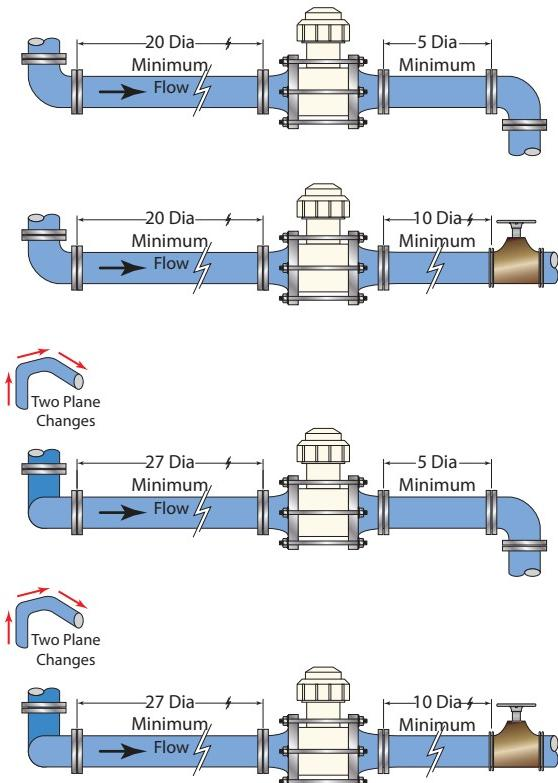
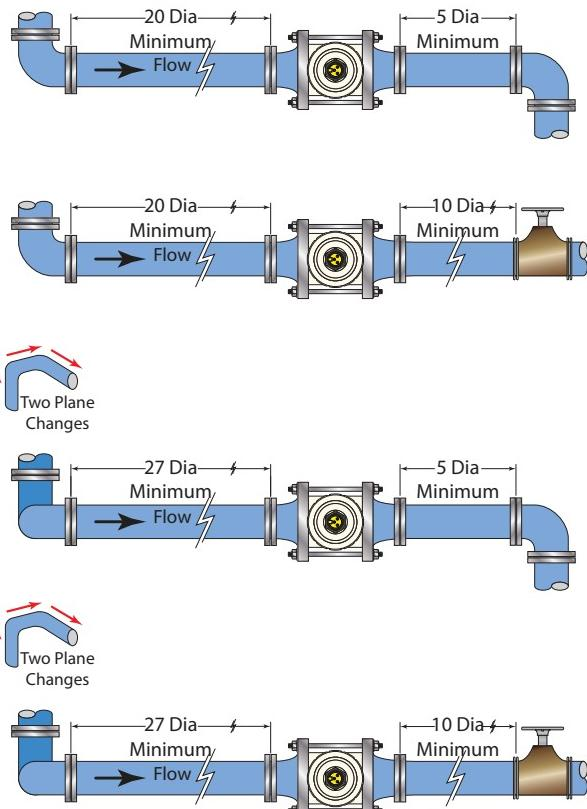
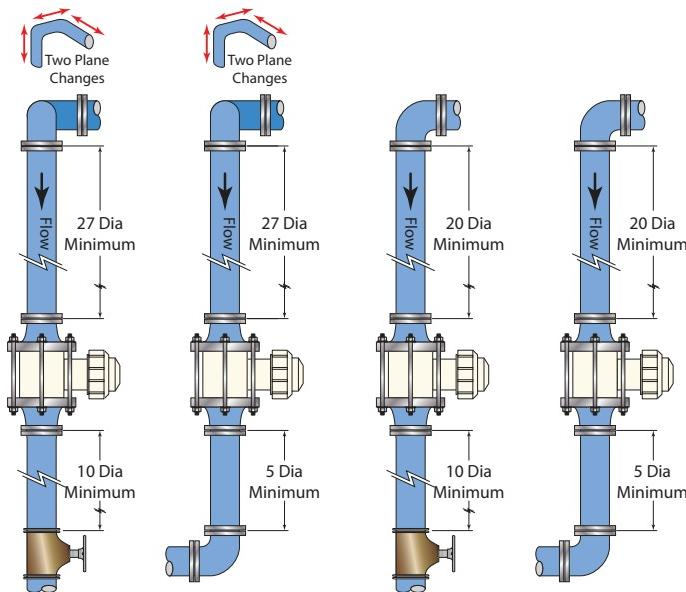
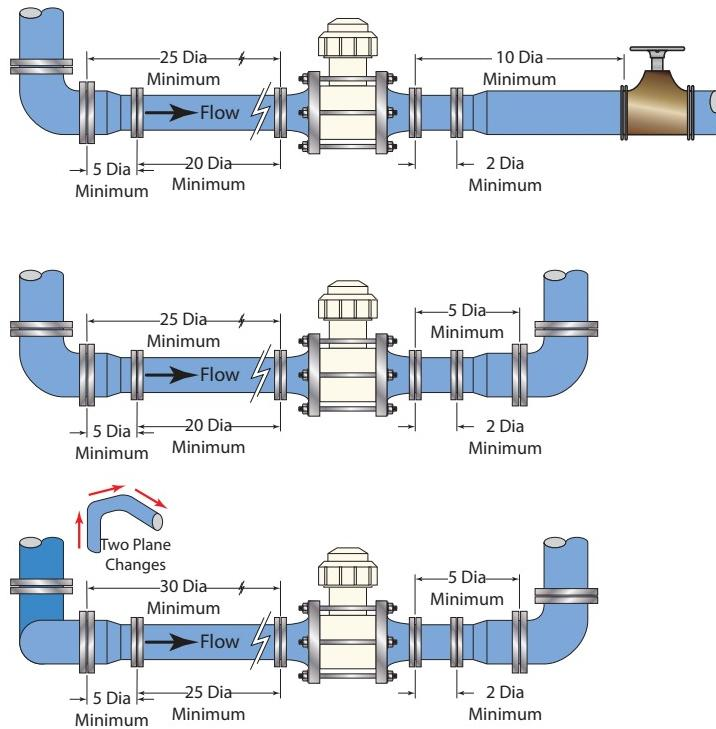

Figure 2: Horizontal flow with sensing element in vertical orientation
Figure 3: Horizontal flow with sensing element in horizontal position
Figure 4: Vertical flow with a change in direction or valve
Figure 5: Horizontal flow with a change in pipe diameter
Turbulence in the pipeline can affect the accuracy of flow meters. Typical sources of turbulence are pumps, valves, change in pipe diameter or changes-in-direction in the line. Install the meter away from the turbulence source to avoid turbulence issues. These distances are indicated in Pipe Diameters (PD). For example, 10 PD is ten times the inside pipe diameter away from the source of turbulence. Follow upstream and downstream distances for all sources of turbulence. See *Figure 2 on page 7, Figure 3 on page 8, Figure 4 on page 9 and Figure 5 on page 9* for proper piping distance requirements.